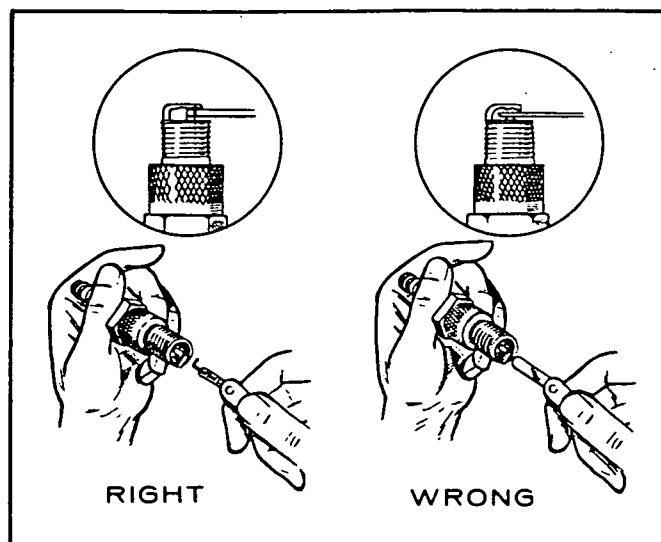

FIGURE 8. SETTING SPARK PLUG GAPS
- Wrong gap setting (Figure 8).